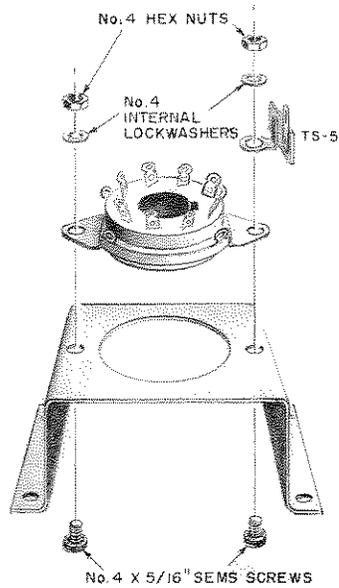

Figure 7. Mounting of Octal Socket.
- (✓) Mount the octal socket XV2, together with the single-lug terminal strip TS-5 to the tube mounting bracket with the No. 4 x 5/16" sems screws, No. 4 lockwashers and No. 4 hex nuts as shown in Figure 7.